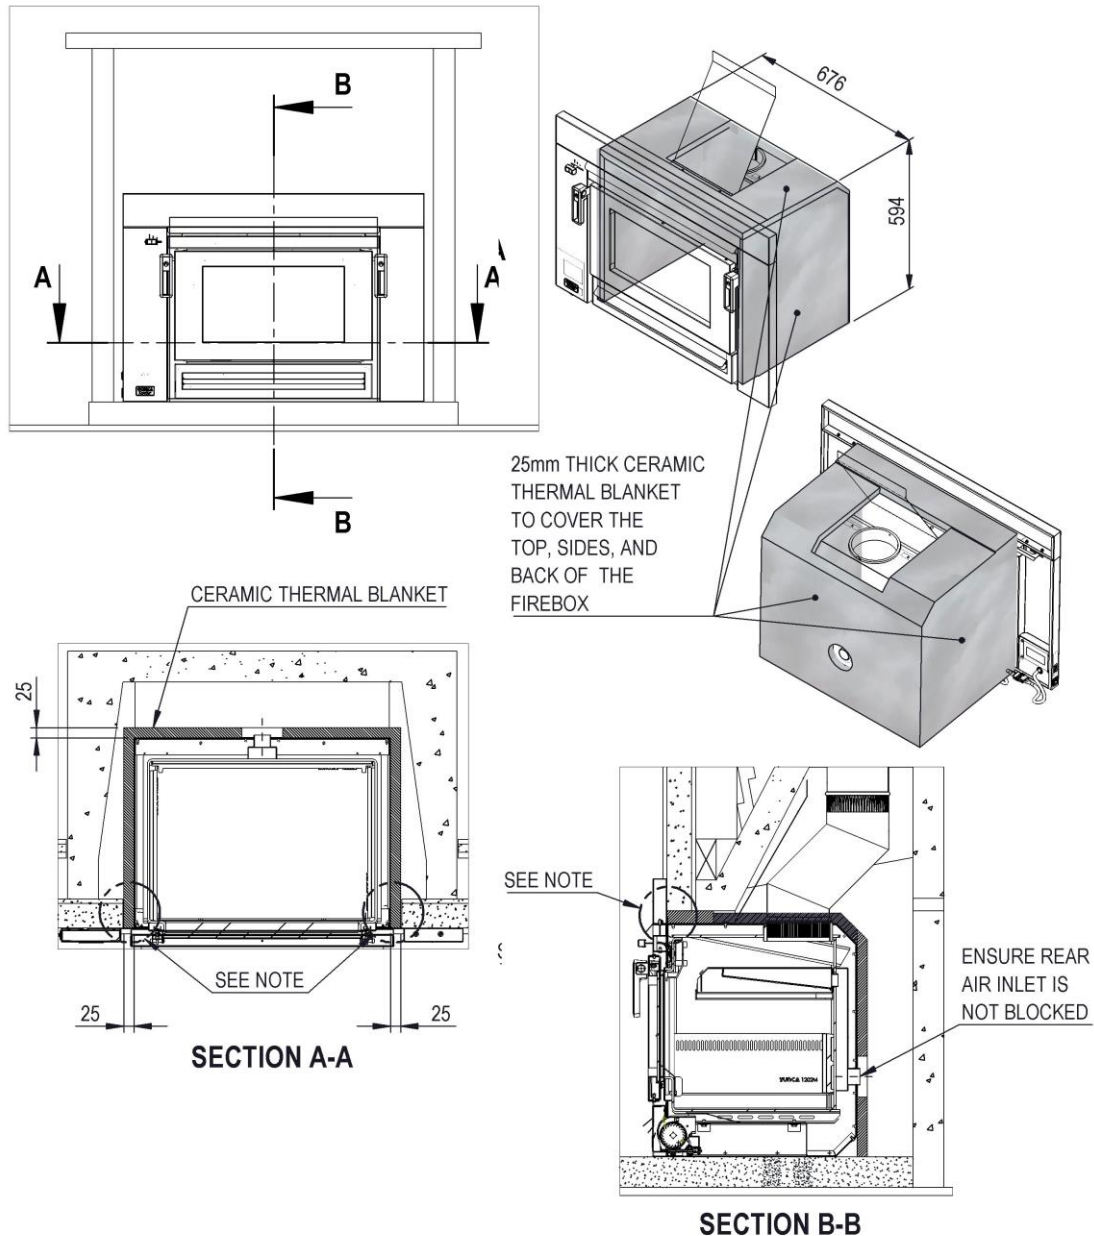

Fig. 9
Q. Thermal Blanket Installation (Fig. 9)